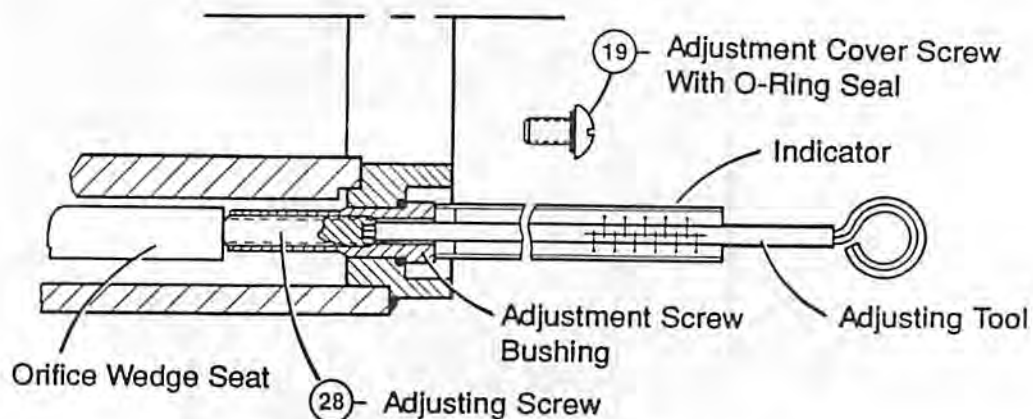

Figure 2-46. Shock Absorber Adjustment
The adjustment screw (Part No. 28, *Figure 2-46*) actuates a precision-ground, hardened orifice wedge seat that moves axially. Flow metering orifices are opened or closed simultaneously as the adjustment screw is rotated. Turning the adjustment screw clockwise opens the orifices and decreases unit resistance; counterclockwise closes the orifices and increases unit resistance.
1. Remove adjustment cover screw (Part No. 19, *Figure 2-46*) and place graduated tube firmly against adjusting screw bushing.